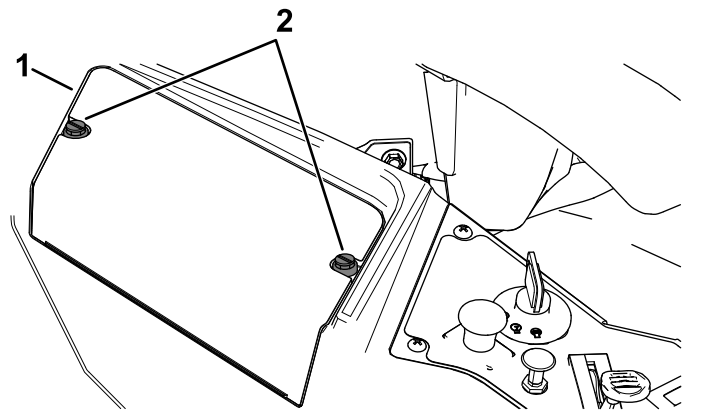

Figure 54
3. Loosen the 2 fasteners on the battery cover counterclockwise 1/4 turn, and remove the battery cover (Figure 54).
6. Install the battery cover by pushing down and tightening the 2 fasteners clockwise (Figure 54).